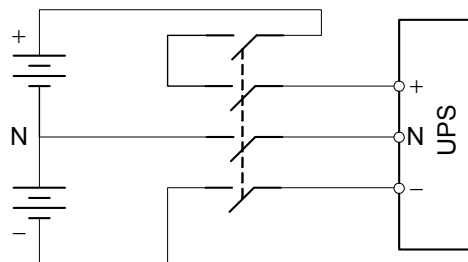

Figure 2 Connections between the battery, breaker and UPS (three cables connected to battery)
2. In the case the battery is configured for center tap wiring (that is, lead three cables from battery terminals), it is recommended to use a 4P DC MCCB, with DC rated voltage of the breaker meeting 1-pole 250Vdc, 2-pole 500Vdc, 3-pole 750Vdc, and rated breaking capacity limit being 35kA. Connections between the battery, breaker and UPS are shown in Figure 2